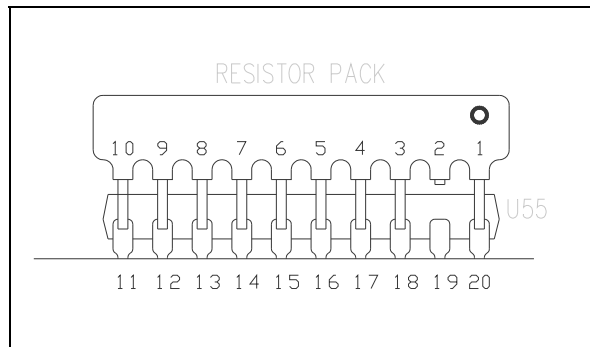

Figure 7
- a. Refer to Figure 7 during the following procedure.